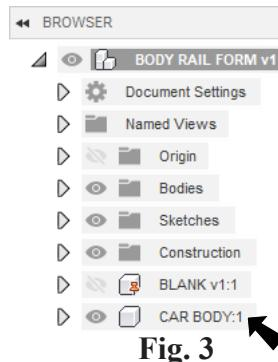

Fig. 3
Step 5. Rename new Component **CAR BODY**, Fig. 3. To rename, slowly double click.